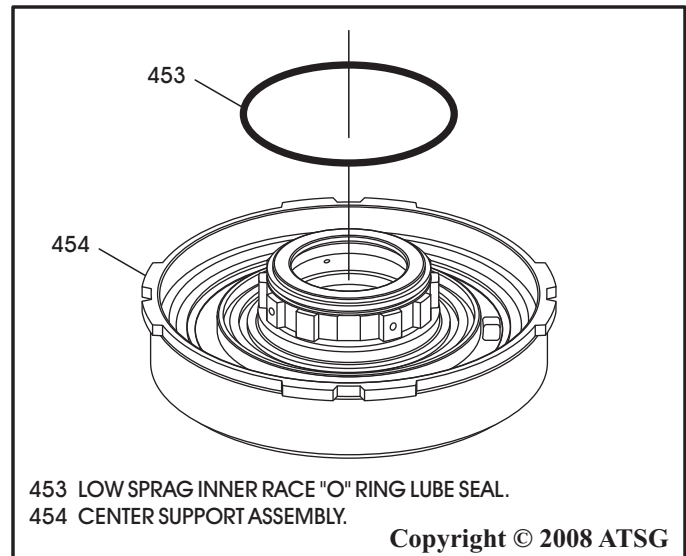

Figure 114
6. Install new lube seal "O" ring into the groove in center support, as shown in Figure 114.